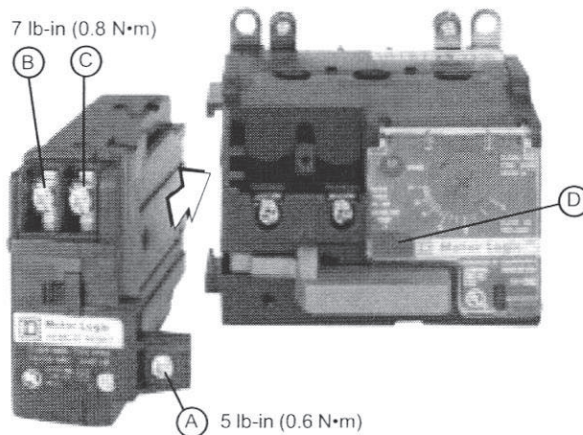

Figure 1 Remote Reset Installation
2. Slide the module onto the overload relay (see Figure 1). The bottom of the module mounting tab must be flush with the housing of the overload relay.
3. Tighten the remote reset mounting screw (A) to 5 lb-in (0.6 N·m). Excessive torque could damage the mounting tab and affect the module's performance.